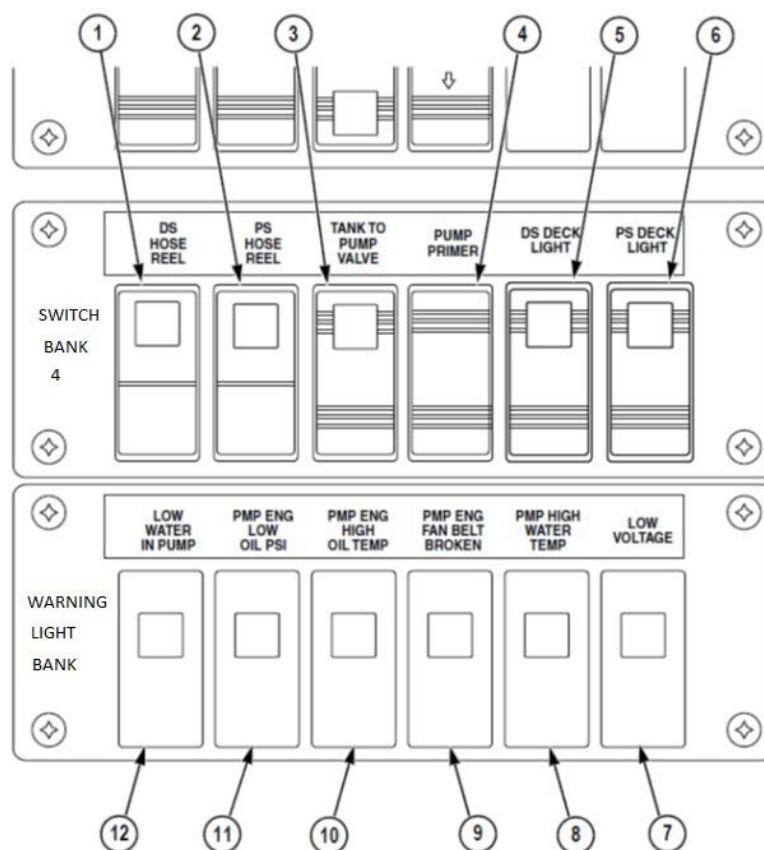

Figure 5-10. Switch bank 4 and warning light bank.
5. **WARNING LIGHT BANK.** Houses warning lights that monitor the status of various pump systems (fig. 5-10).
6. **SWITCH BANK 4.** Houses various fire-fighting controls and indicator lights (fig. 5-10).